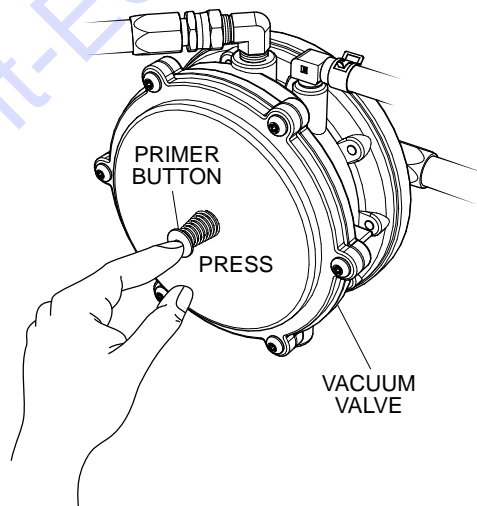

Figure 16. Primer Button
5. Press the primer button (Figure 16) on the vacuum valve once. Pressing the button will allow pressure to build up at the regulator (3.5~4.0 psi/ 24~ 27 kPa)